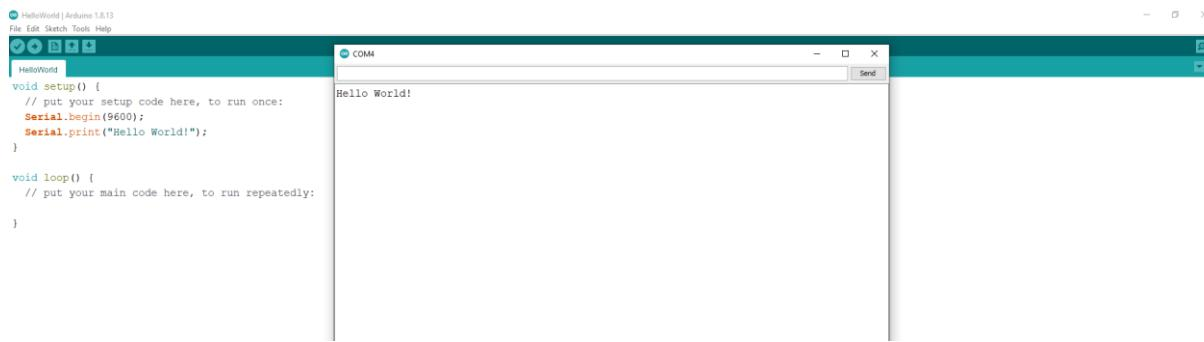

Figure 13: Hello World program!
3. In the upper right corner of your dialogue window click the "send" button. The program result should be visible as it is shown in figure 13.